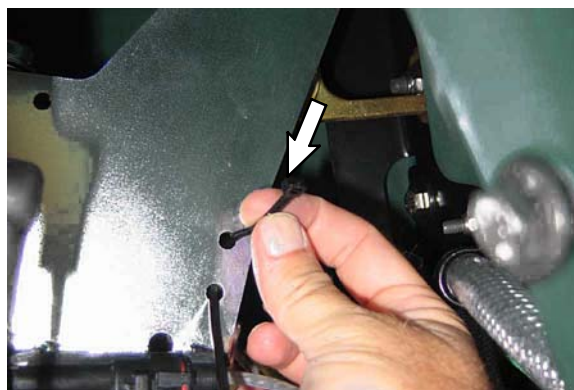

Fig. 4
4. Locate the pre-installed wire ties on the actuator bracket (Figure 4). There should be one on each side. Install wire ties if not pre-installed.